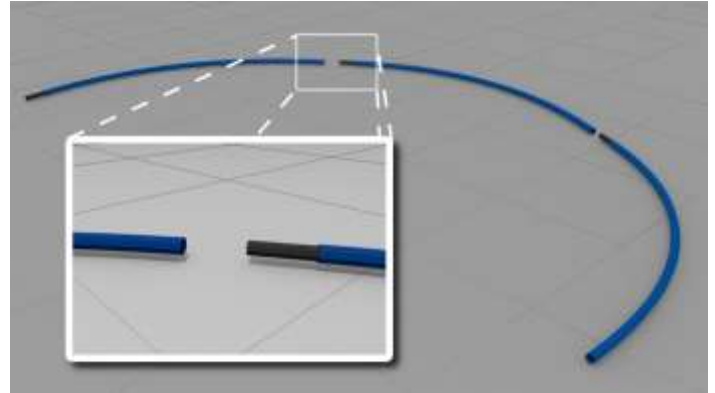

Fig 2.1 Bow Assembly
- Place bow sections on flat ground(Fig 2.1).